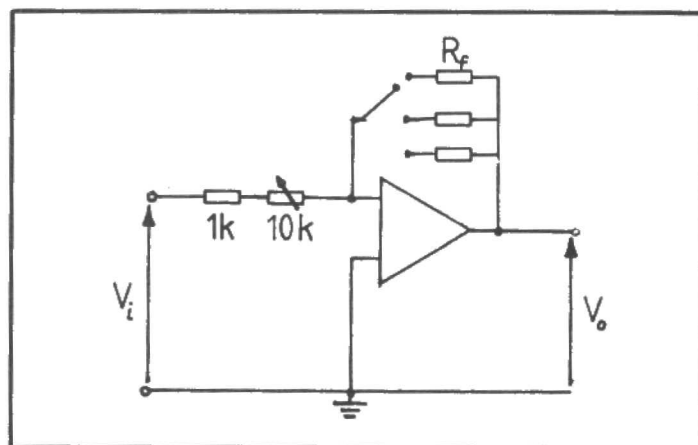
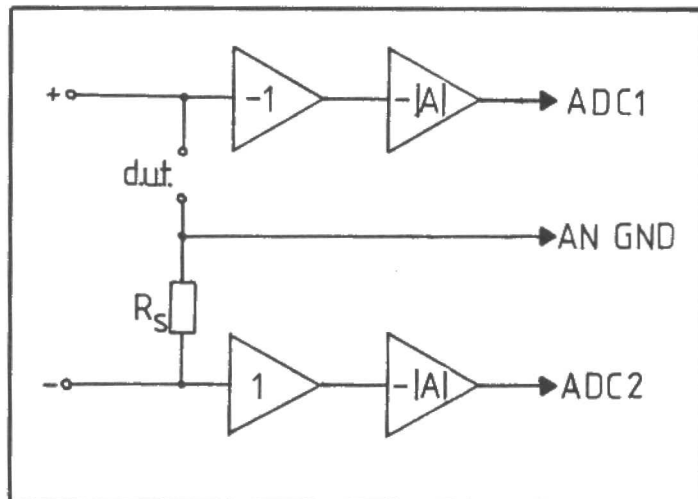

Figure 4. Inverting amplifier. Gain $A = R_f/R_i$. $R_f = 1$ k, 10 k, 100 k.
Figure 5. Measuring V and I using op amps to scale voltages. -1: inverting buffer. 1: non-inverting buffer. -A: inverting amplifier.
voltages can be reduced to a range that the converter can handle. **Fig 4** shows some possible values of resistors which give useful ranges of operation. The complete arrangement is shown in **Fig 5**. The voltage across the component is given by ADVAL(1), and ADVAL(2) reads the current.